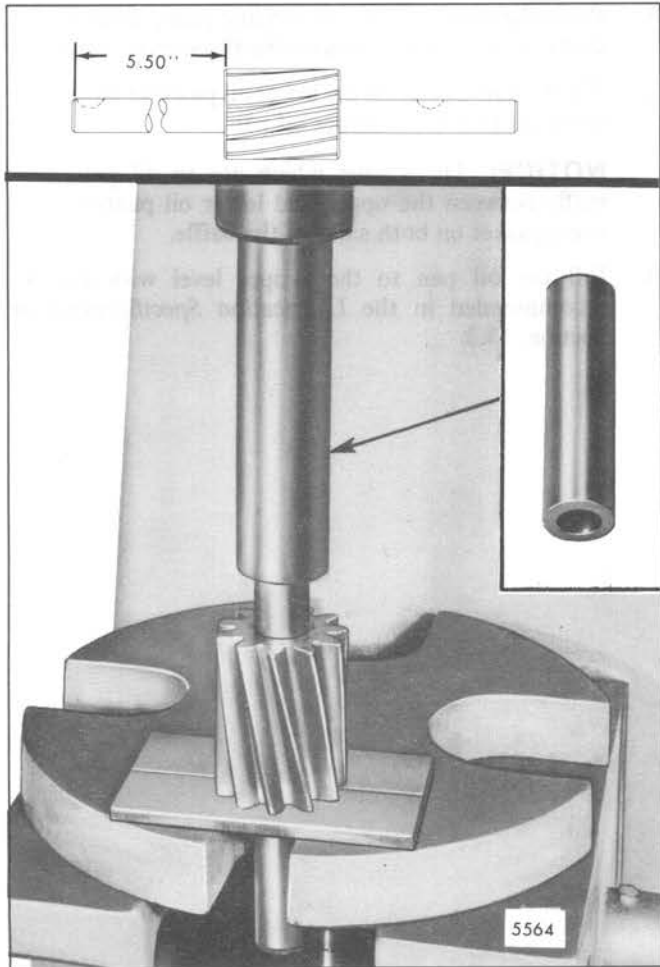

Fig. 15 - Installing Oil Pump Gear on Shaft using Tool J 9380
2. Lubricate the drive shaft, then press the oil pump drive gear on the shaft with tool J 9380 (Fig. 15). Tool J 9380 will position the gear 5.50" from the end of the shaft as well as prevent the shaft from bending during gear installation.